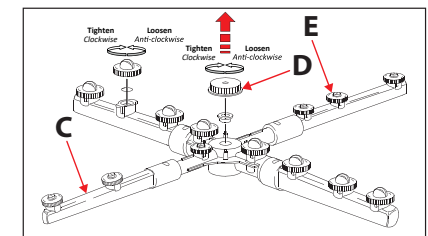

Fig.3
1. Remove the fixing screw (D) Fig. 3 to remove the wash/rinse arms (D). Check that the nozzles (E) Fig. 3 are not blocked with food waste. The nozzles can be removed for cleaning if required
2. Reinstall the wash/rinse arms using fixing screw (D) Fig. 3.